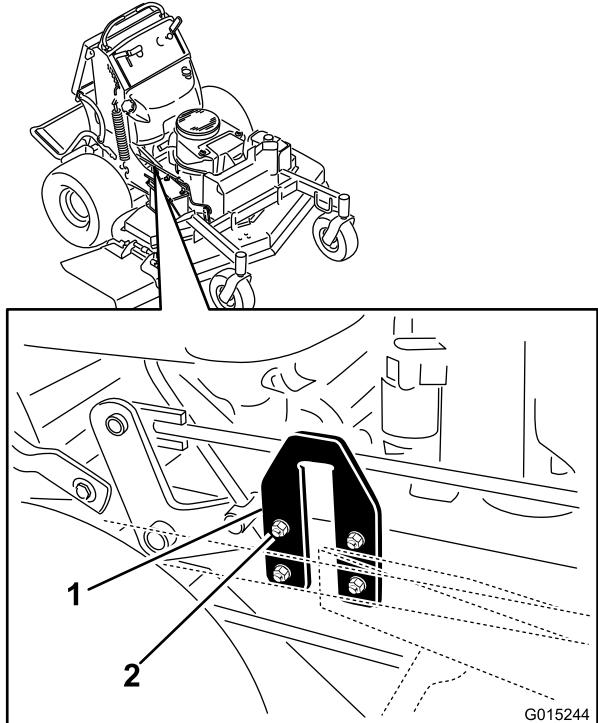

Figure 84
2. Locate the U-plates on the side of the engine deck (Figure 84).
3. Loosen the U-plate on 1 side, and adjust it up or down to make the difference between measurements **B** and **C** no more than a 6 mm (1/4 inch) as shown in Figure 84.